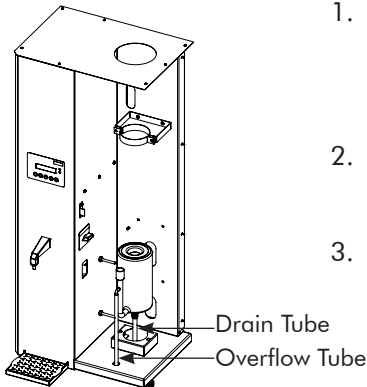
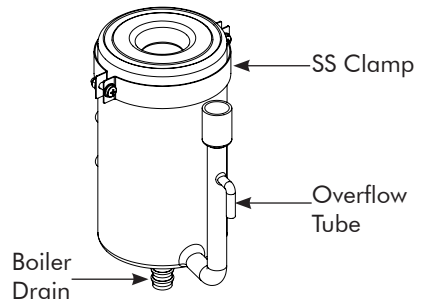

Fig 16.2
Fig 16.4
1. Attach the silicone drain tube to the boiler drain and overflow connections (fig. 16.2), refer image (fig. 16.4) for tube connection.
2. Place the Primary Boiler on the base (fig. 16.2).